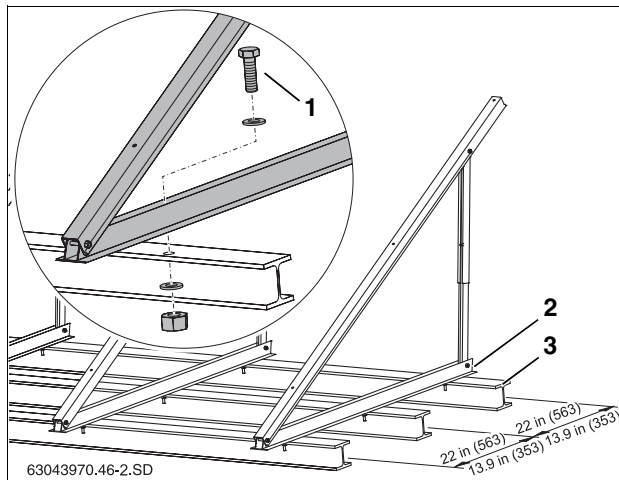

Fig. 26 Flat roof support on girders, dimensions in mm (value in brackets = landscape version)
Fasten the flat roof supports with anchor bolts. As an example, see mounting on I-beams (Fig. 26, [3]).
- ▶ Transfer the lower profile hole clearances (Fig. 26, [2]) onto the I-beams, and drill corresponding holes.
- ▶ Insert screws (see Tab. 7 and Fig. 26, [1]) through the profiles and I-beams and tighten with nuts and washers.